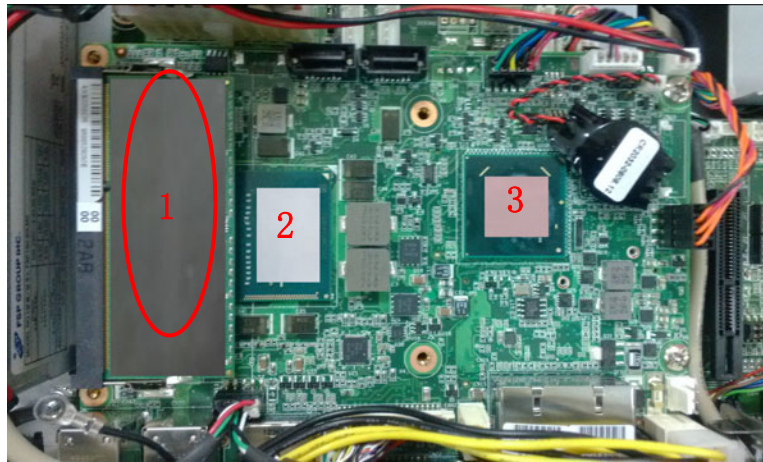

Figure 2.11
6. Insert the memory card in the slot, and take out the thermal pads of CPU, QM77 and memory and stick them in the correct locations (see Fig 2.11), then install the CPU cooler to complete the memory installation.